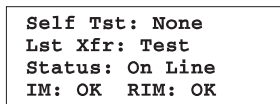

Fig 5-20 Miscellaneous Status Screen
- 7. Press the down arrow key to scroll to the miscellaneous status screen. See figure 5-20. The bottom line indicates the status of the MIM and RIM. The sample screen in figure 5-20 indicates that both are installed and functioning properly (OK). If a module is not installed, the status screen will display the word “NONE.” Confirm that the status of the MIM and RIM as indicated by this screen conforms to the actual installation of those modules. Use the ESC key to return to the startup screen.